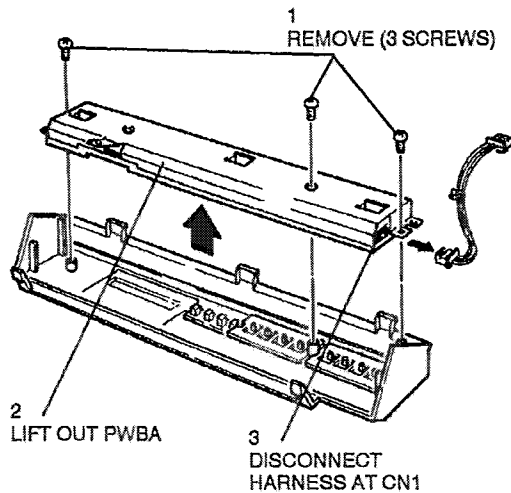

Figure 1. User interface harness removal
2. (Figure 1) Remove the user interface harness.